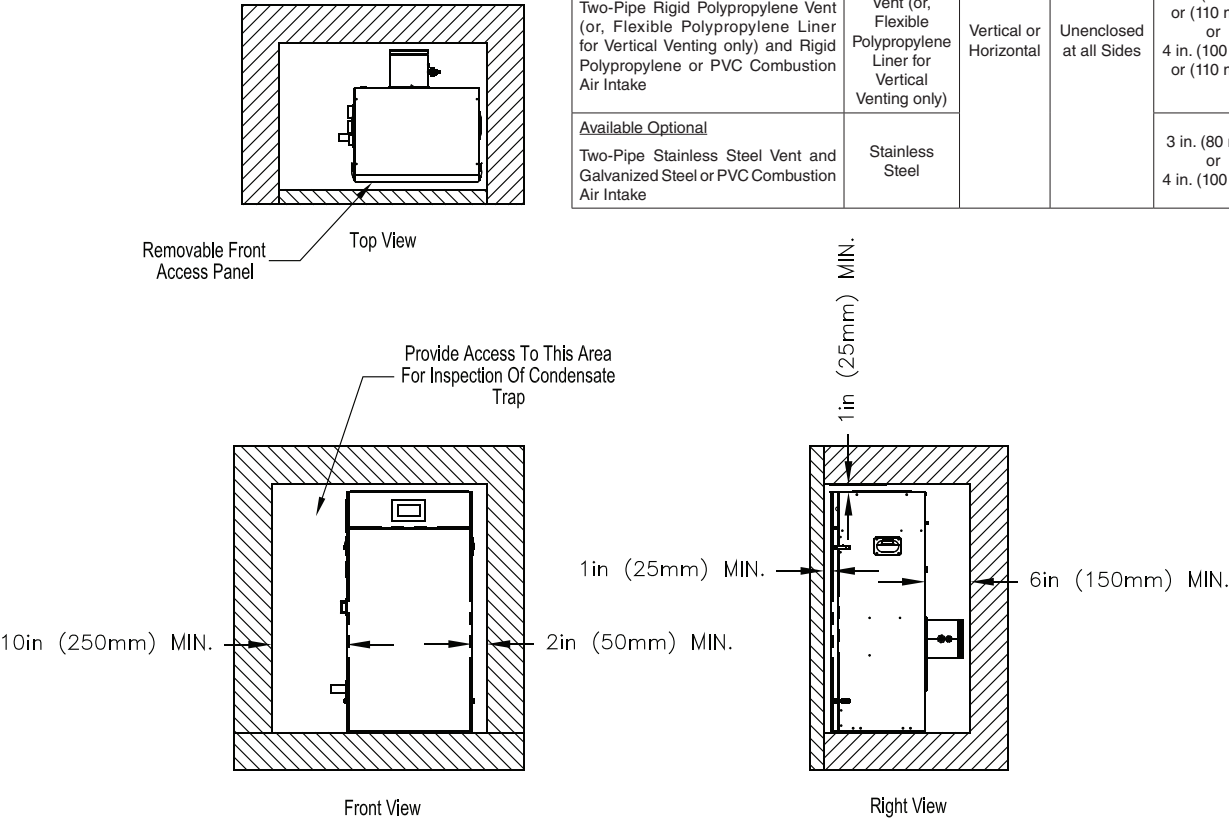

Figure 2A: Clearances To Combustible and Non-combustible Material, Floor Standing
- C. Provide clearance** between boiler jacket and combustible material in accordance with local fire ordinance. Refer to Figure 2A or 2B for minimum listed clearances from combustible material. Recommended service clearance is 24 in. (610 mm) from left side, front, top and rear of the boiler. Recommended front clearance may be reduced to the combustible material clearance providing:
CAUTION When positioning the template in the desired location on the wall insure that the *minimum clearances to combustible material* at adjacent walls and ceiling are maintained. Consult Figures 2A through 2C in this manual. Be sure to allow space at the boiler left side for gas and water connections, as well as for access to the condensate trap and boiler controls for servicing.